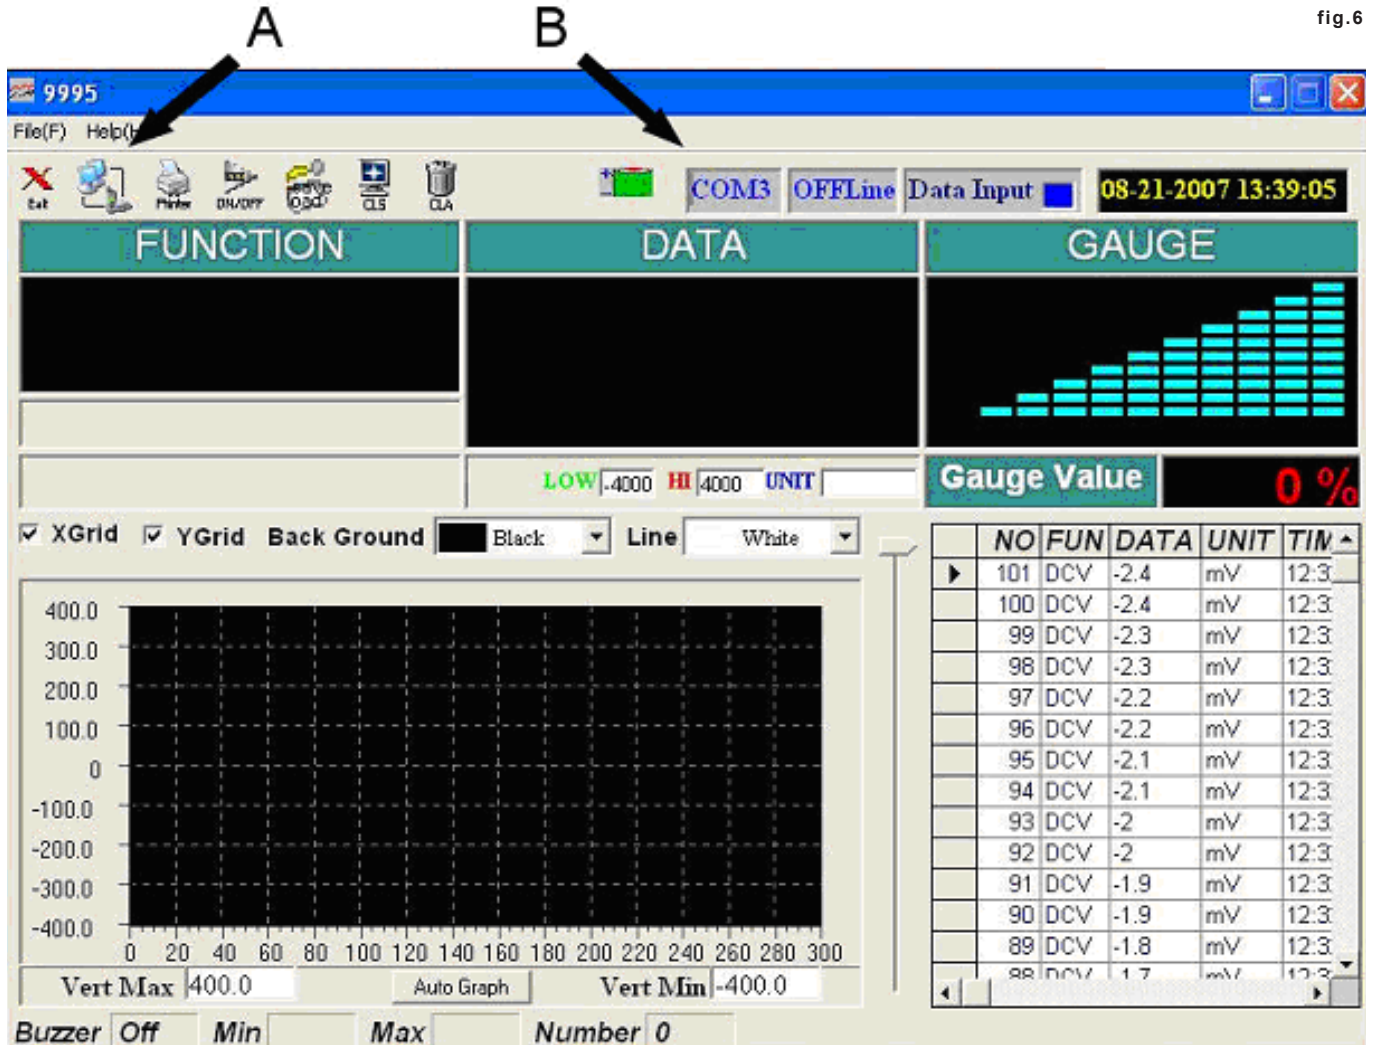

fig.6
#### 4.18. Windows® Application Program (fig.6.)
- 4.18.8. Click button "A" (Fig.6) to toggle between available COM ports until the COM# in window "B" (Fig.6) matches the number found in the device manager in step 4.18.5.